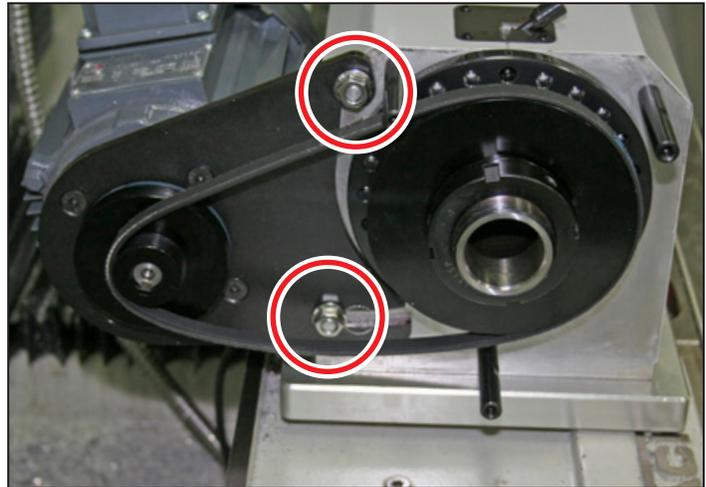

Figure 3.10
- Using an adjustable wrench, loosen two M8 flange nuts securing motor bracket to RapidTurn; the belt will slacken and can be moved from one pulley to another (see **Figure 3.10**).